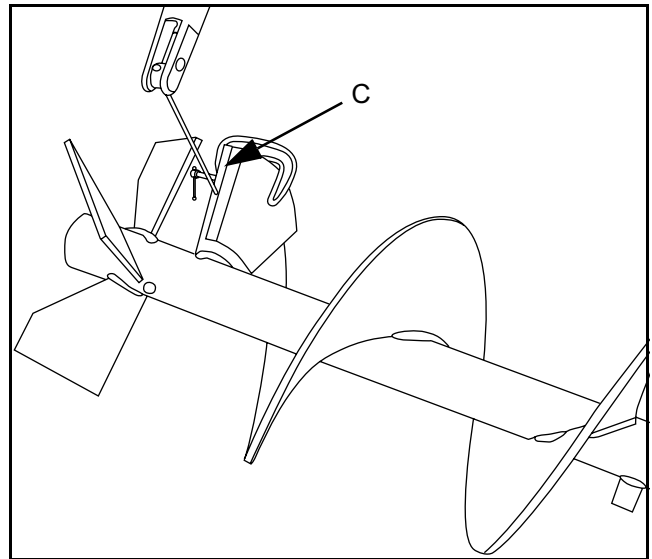

Figure 6 - 33 First and last liners require extra weld
- 6) On the first and last liners of each flight make a weld at the exposed edge for extra strength “C”. (Figure 6 - 33)